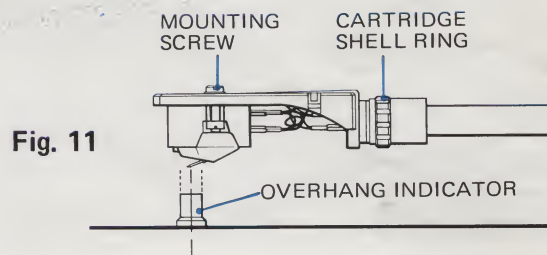

Fig. 11
- 4 Move the tone arm over the overhang indicator and adjust cartridge until the stylus point is located exactly above the overhang indicator. Fix cartridge in this location by TIGHTENING the mounting screws. (Fig. 11)